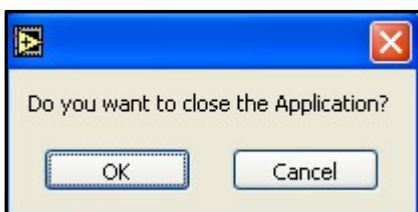

Fig 3-11 Close GUI Pop-up Window
10. If you wish to close the GUI then click the **X** in the upper right-hand corner, then click **OK** in the pop-up window that says, "Do you want to close the Application?" as shown in Fig 3-11.